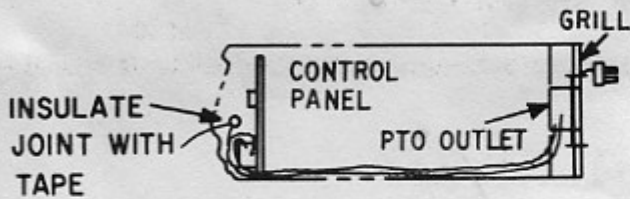

Figure 3
7. Attach furnished wires 80-20, 80-21 and 80-22 to the PTO outlet as shown in Figure 2. Dress these wires along the right side of the battery compartment as shown in Figure 3.